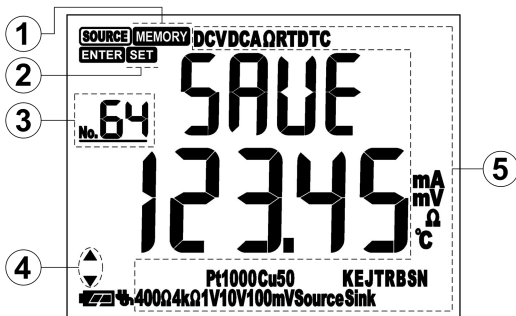

Figure 5.7 Display picture of common output value in the storage
- (1) In the state of **ENTER** when the key of **STORE** was pressed, the instrument switched to the display of storage status, and the content was displayed in [figure 5.7].
- (2) By pressing the key of  to switch the current storage location of 1~64, and the digital was displayed in the upper left corner. The up and down keys were according to the position number of ± 1 , and the left and right keys were according to the position number of ± 10 .